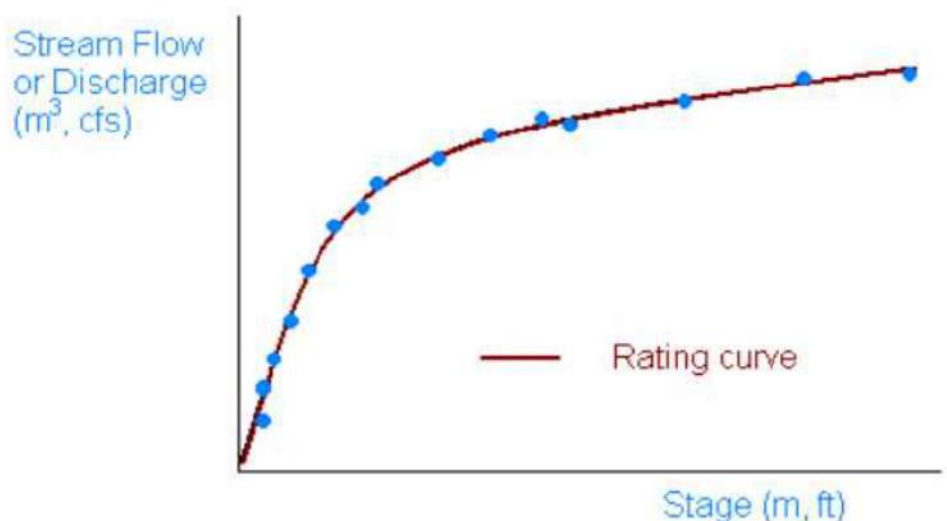

Fig. 6.1 Rating curve
- **Rating curve/Flow rating curve** is a graph shows the relationship between stage of a river channel, at a specific cross-section, and the corresponding discharge at that section, Fig. 6.1.